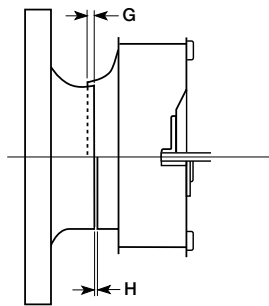

Figure 9
1. **Check all fasteners for tightness.** The wheel should rotate freely and be aligned as shown in Figure 9. Wheel position is preset and the unit is tested at the factory. Movement may occur during shipment, and realignment may be necessary. Centering can be accomplished by loosening the bolts holding the inlet (venturi) panel and repositioning. Wheel and inlet cone overlap can be adjusted by loosening the setscrews in the wheel and moving the wheel to the desired position.
Wheel improperly aligned and rubbing	Center wheel on inlet, see Figure 9.
Improper wheel alignment	Center wheel on inlet, see Pre Start-Up Checks and Figure 9.